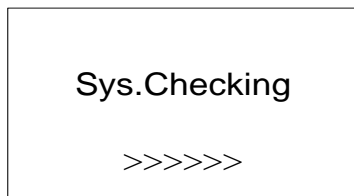

Figure 6-1 System self check ongoing
- (1) System check mode for start up, as shown in Figure 6-1: